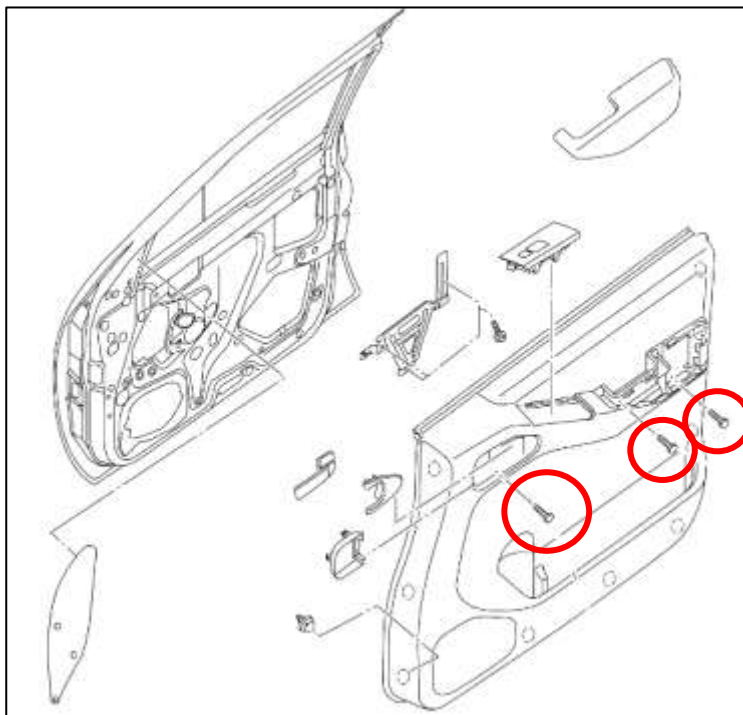

Figure 77
6. Remove the (3) three bolts securing the Door Panel to the Door. *Figure 77.*